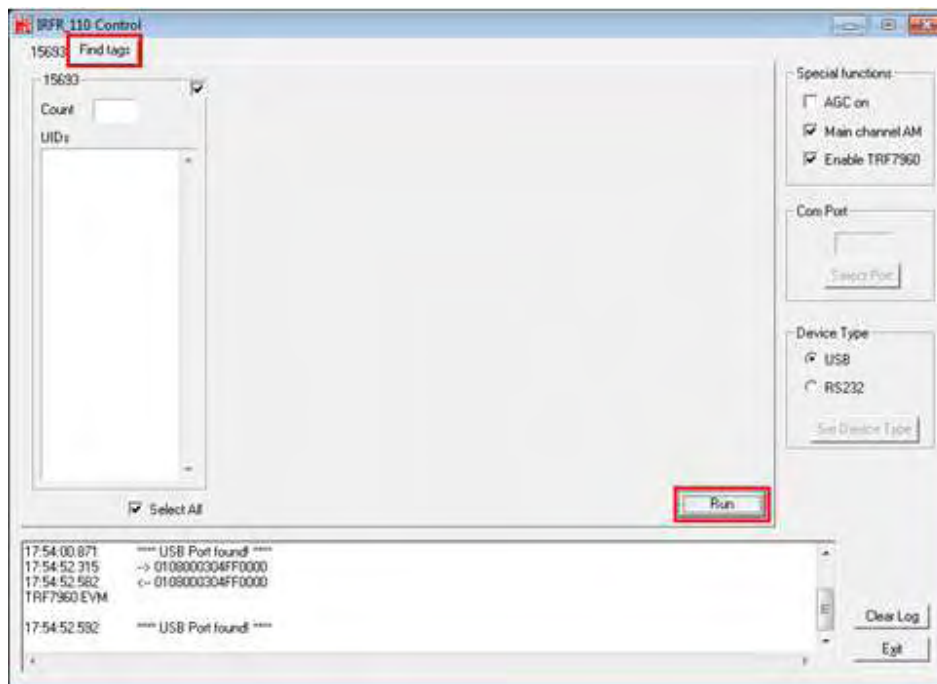

Figure 3-27: IRFR – Find Tags
Step 6: Select the **Find tags** tab and click the **Run** button to enable the RFID reader (**Figure 3-27**).